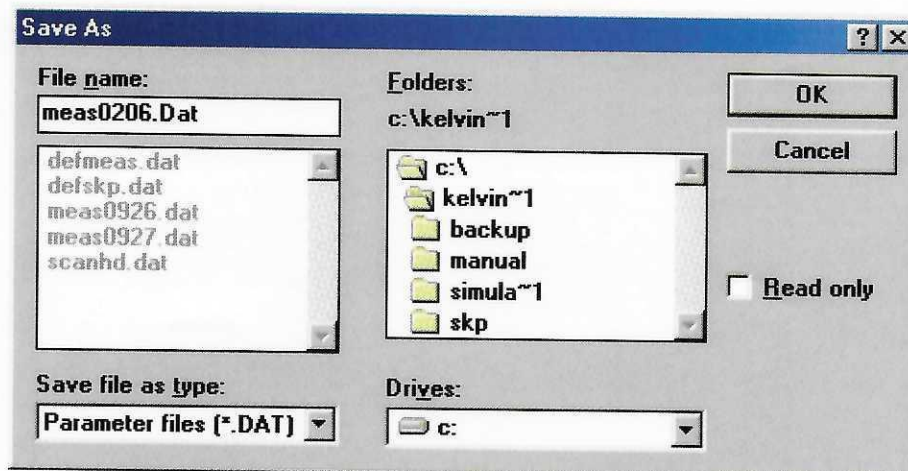

Figure 29 Example of the Scan Save Data Screen.
5. At the end of the Scan the following dialog appears (Figure 29), the user should select and appropriate filename and save the measured data. In tracking mode there are 4 data sets: WF, Grad, Topo and Time. Scanning without tracking produces WF, Grad and Time. Note the topographic data are the steps (in 0.4 micron units) that the probe was moved up or down to maintain a constant mean spacing.